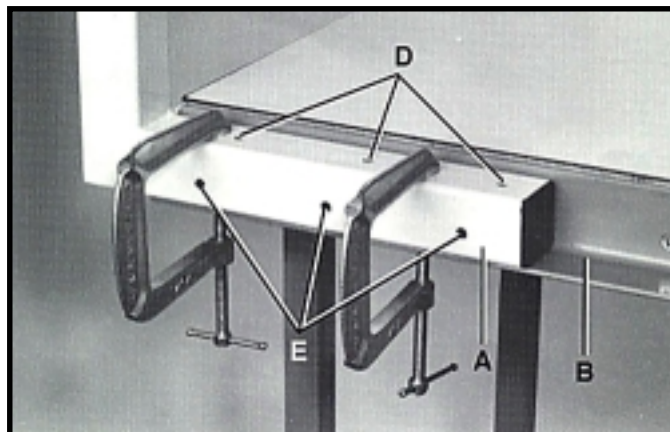

Fig. 6
2. Mark the location of the six holes, three each to be drilled into the vertical and horizontal portion of the back rail (B) Fig. 6, using the holes (D) and (E) in the mounting bracket as a template.
3. Remove the mounting bracket (A) Fig. 6, from the back rail (B) and drill six holes in the back rail using a 9/32" drill bit.